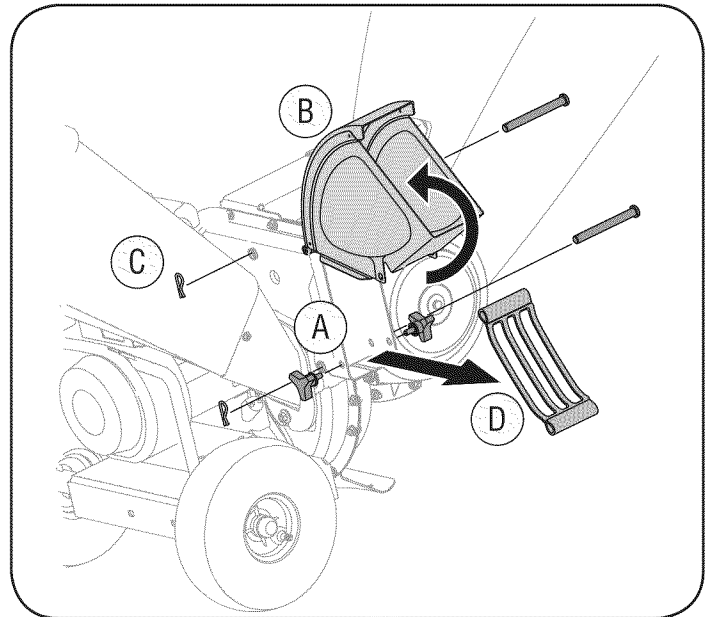

Figure 14
3. A. Remove the bag and two wing knobs on each side of the chute deflector. See Figure 14.
- D. Remove the flail screen from inside the housing and clean the screen by scraping or washing with water. See Figure 14.